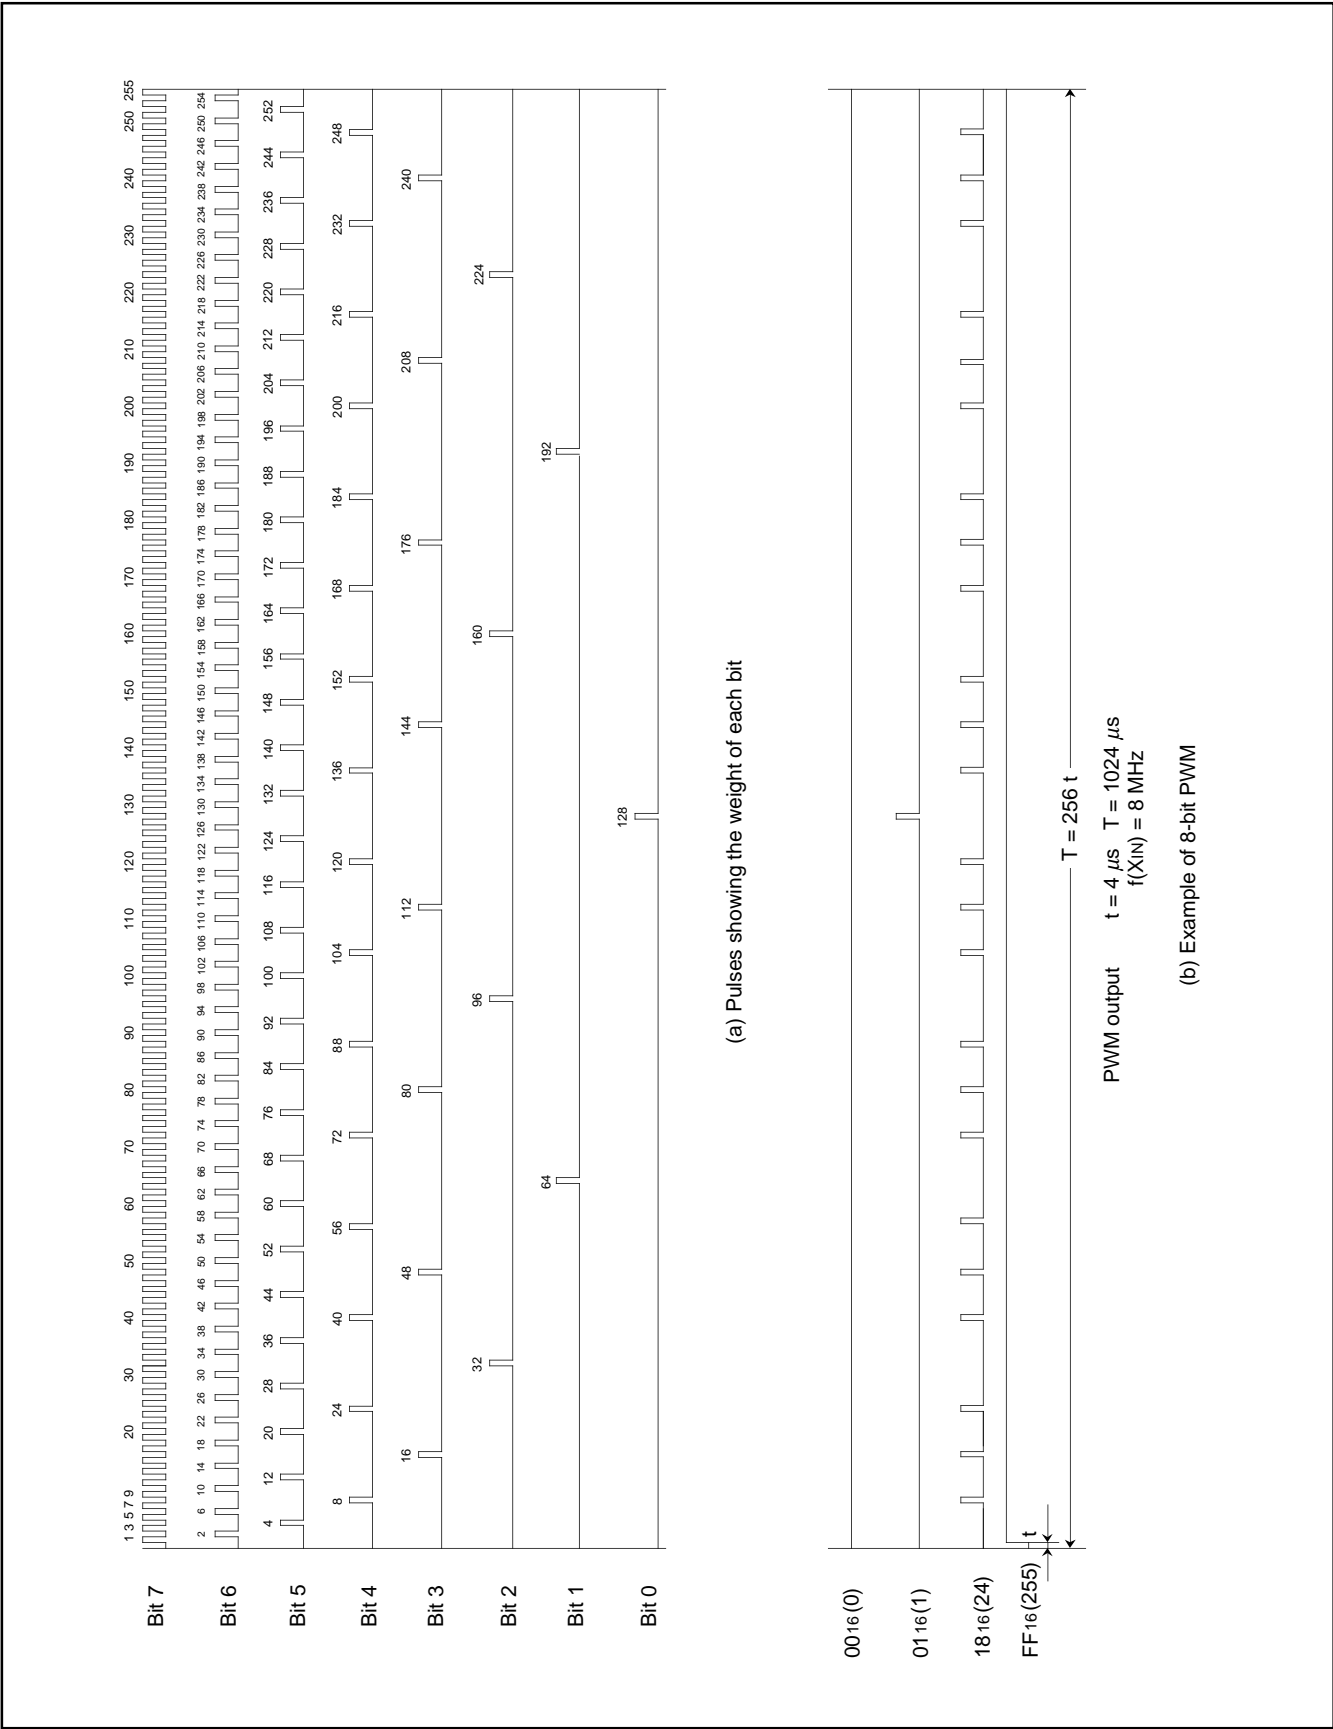

Fig. 24. 8-bit PWM timing
Figure 24 shows the 8-bit PWM timing. One cycle (T) is composed of 256 (2^8) segments. The 8 kinds of pulses relative to the weight of each bit (bits 0 to 7) are output inside the circuit during 1 cycle. Refer to Figure 24 (a). The 8-bit PWM outputs waveform which is the logical sum (OR) of pulses corresponding to the contents of bits 0 to 7 of the 8-bit PWM register. Several examples are shown in Figure 24